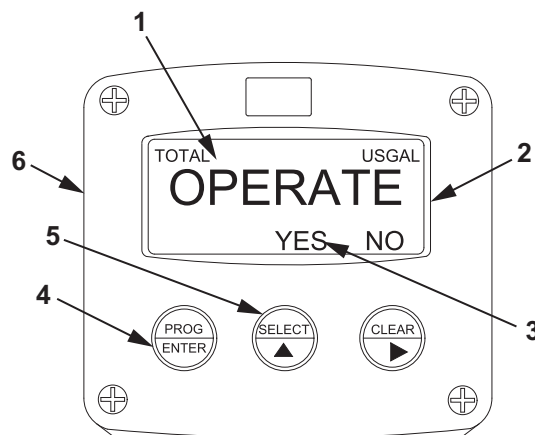

Figure 1. OPERATE Display.
1. If the display screen (Figure 1, Item 2) on the tank volume meter monitor (Figure 1, Item 6) is blank, return tank volume meter monitor to operate mode as follows:
- a. Press the PROG/ENTER key (Figure 1, Item 4) on the tank volume meter monitor (Figure 1, Item 6).
- b. Verify that OPERATE (Figure 1, Item 1) appears on the display screen (Figure 1, Item 2).
- c. Press the SELECT key (Figure 1, Item 5) to select YES (Figure 1, Item 3).